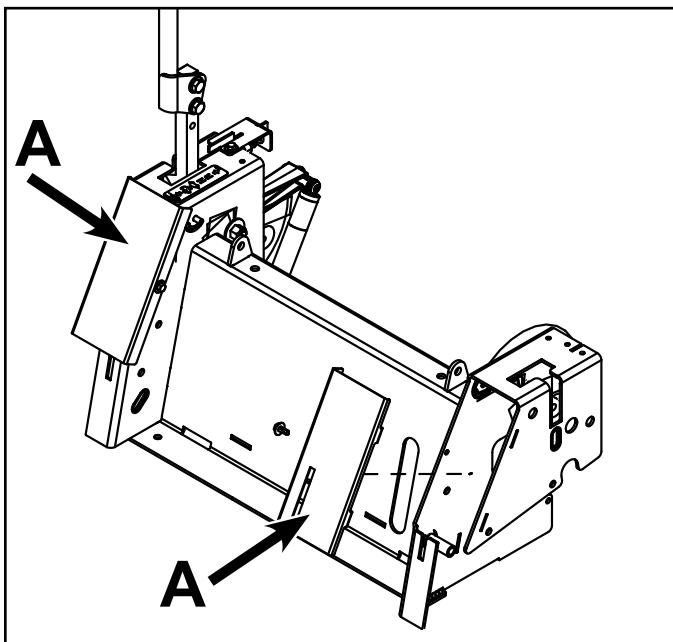

Fig. 119
The RH and LH Neutral Switches are located in the fender/control arm pivot area. The RH and LH switches are serviceable by removing the control cover fastener and the control cover (A) (Fig. 118 and Fig. 119).